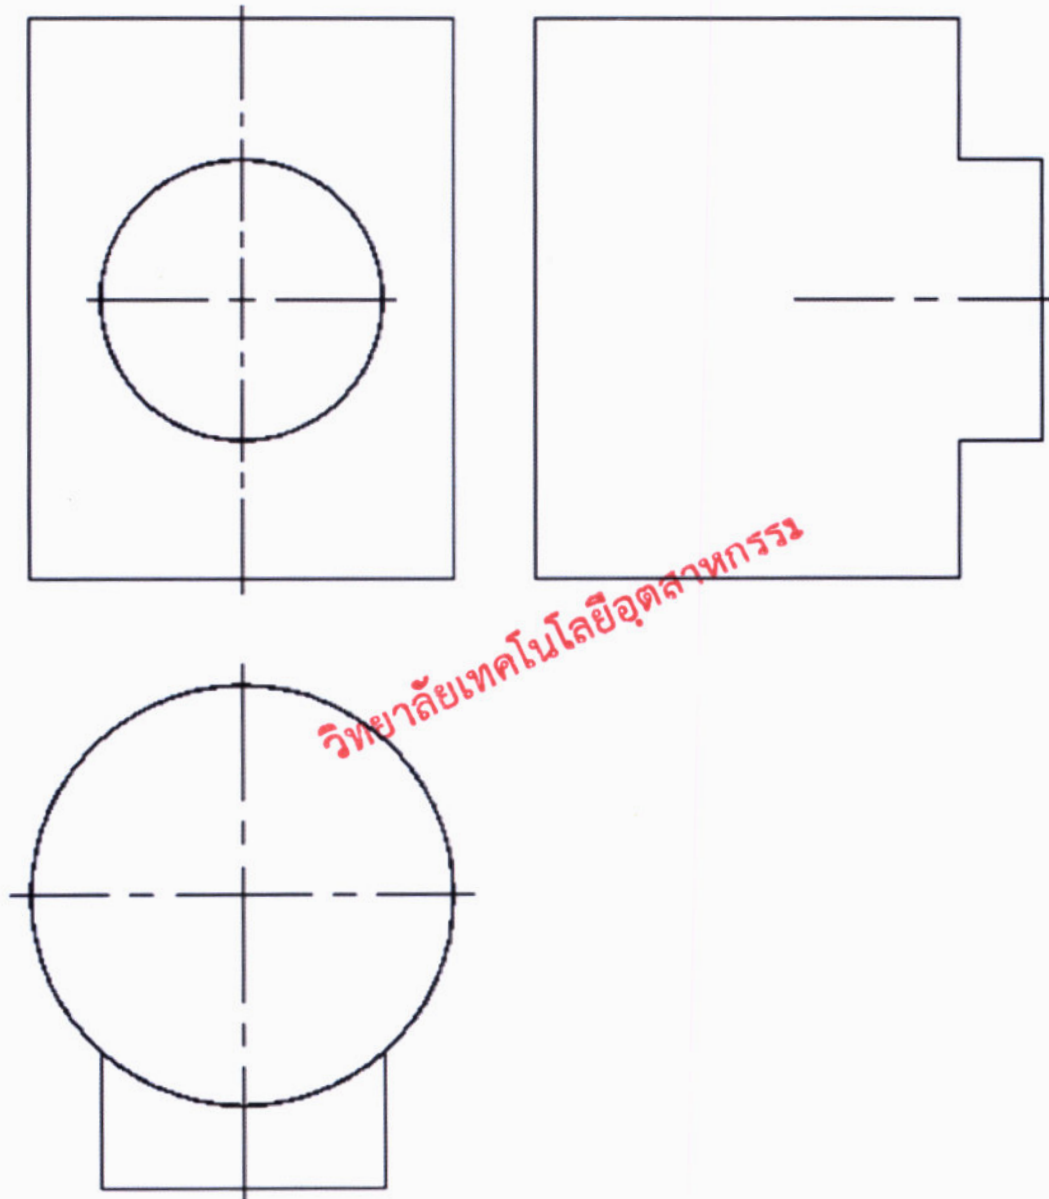

Figure 1
1. The plan and incomplete elevation of a junction between a square section pipe and a cylindrical pipe are shown in figure 1. Fill in the missing lines in the side view.